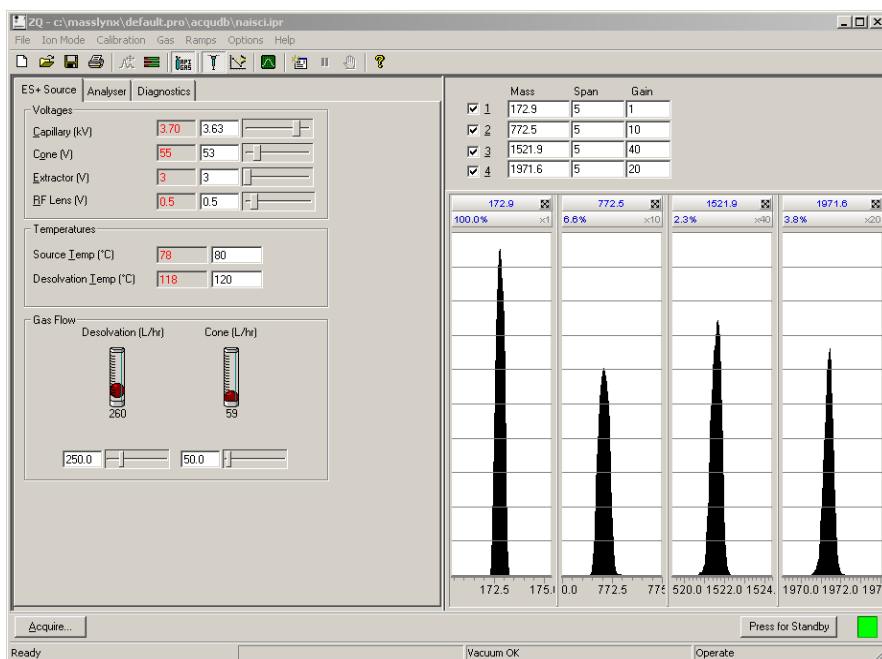

Figure 4-3 Tune Window Displaying the ES+ Source Page
5. Click the **ES+ Source** tab, and enter these suggested parameters in the corresponding fields of the ES+ Source page (Figure 4-3).